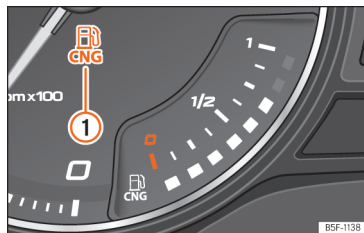

Fig. 123 Analogue instrument panel: natural gas gauge
It lights up green »» Fig. 123 ①